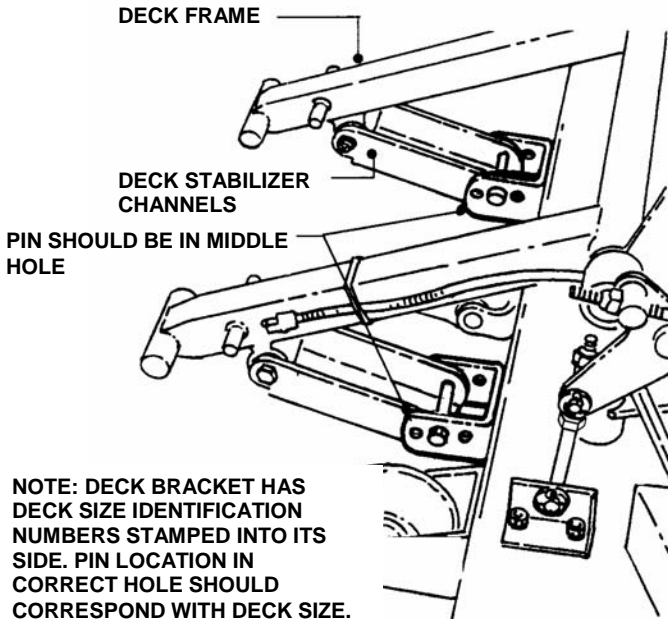

FIGURE 4
STEP 5: Check pin location at the lower end of the Deck Stabilizer Channels. It should be in the middle hole of the bracket. See Figure 4.